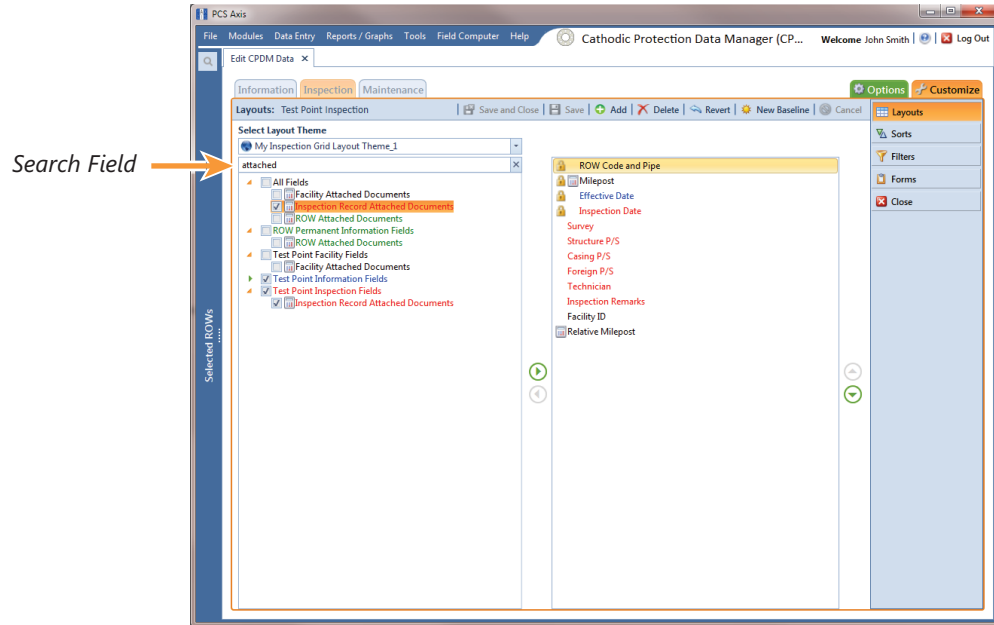

Figure 7-130. Layouts
- a Click the check box for the field **Inspection Record Attached Document** in the left pane of the window (Figure 7-130).